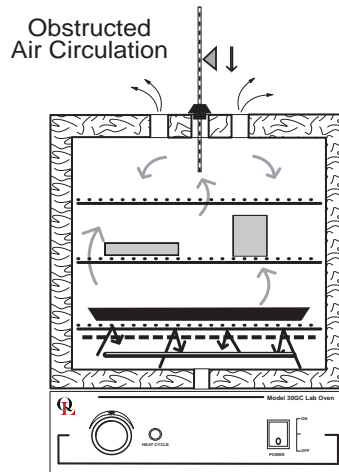

FIG. 5
- ▶ Avoid large solid trays or foil on lower shelves, this can drastically limit heat to shelves and articles placed above. (FIG. 5)